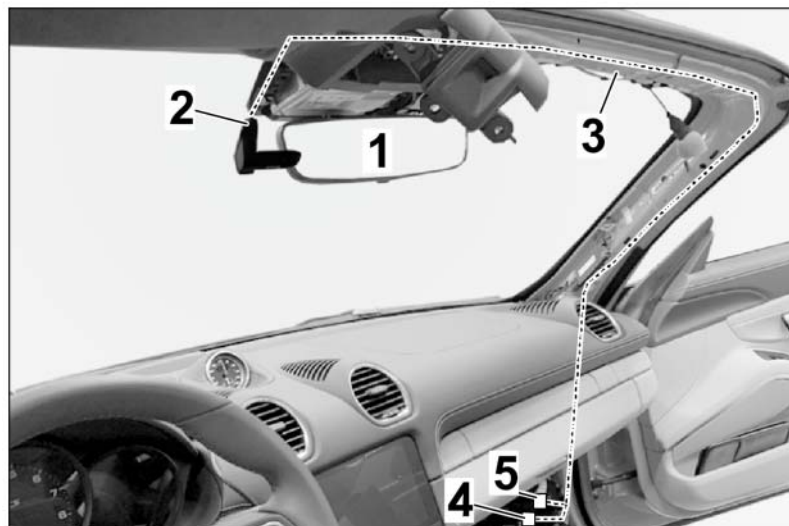

Figure 6
- Overview of installation position ⇒ *Figure 6*